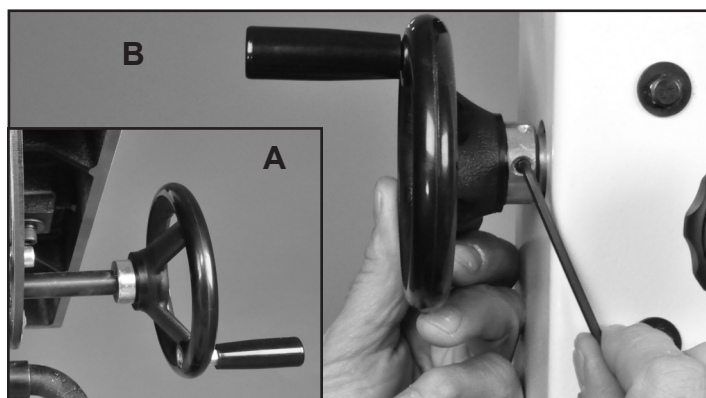

FIGURE 7
1. Attach the small Handle (#15C) to the Handwheel (#16C) that tilts the table. Then install this handwheel onto the Gear Shaft (#18C) extending out from the trunnion at the back of the machine. Fig. 7, A.
2. Attach the Handwheel (#27E) to the upper right side of the saw frame with the 5mm hex wrench. This wheel raises and lowers the blade guard. Fig. 7, B.
3. Attach the Handwheel (#19B) to the lower right side of the frame with the 5mm hex wrench. This wheel adjusts the motor drive belt tension. Fig. 7, B.
4. Install the Blade Tension Handwheel (#1D) to the top of the saw frame. No tools are needed, as the metal shaft of the handwheel has two simple pins that engage the Blade Tension Rod (#2D). Fig. 7, C.